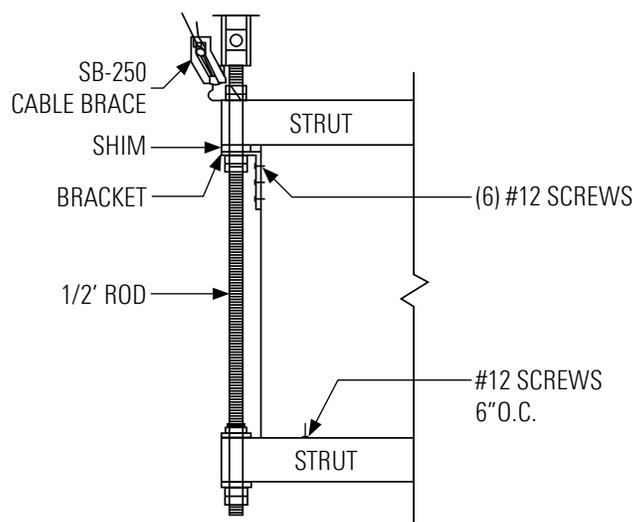

FIGURE 2
**Install the seismic terminal unit as shown in Figure 2, as described in these details:**